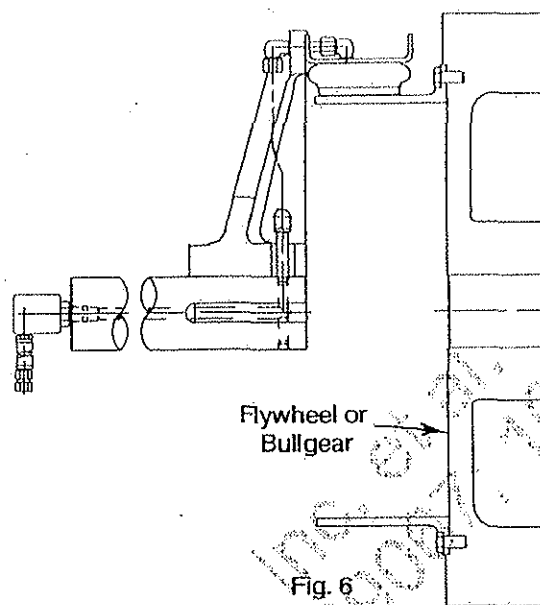

Fig. 6
2.1.5 Figure 6 illustrates a typical engine-mounted application, where the clutch element is attached to a spider and the drum is attached to a shaft-mounted flywheel or bullgear. This type of application is typically used when drilling of the air passage in the driving shaft is neither possible nor practical.